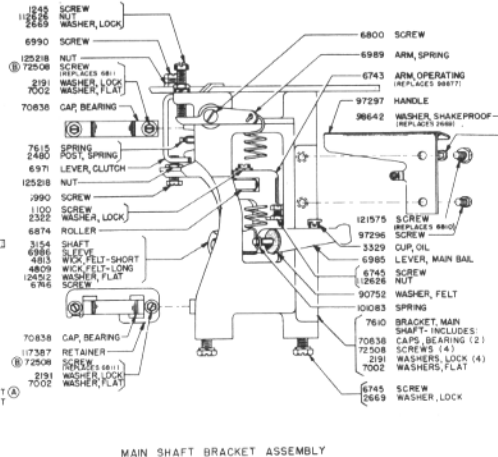

FIGURE 2
- 2 - Remove the upper and lower bearing caps (Fig. 2). The main shaft should now be free.